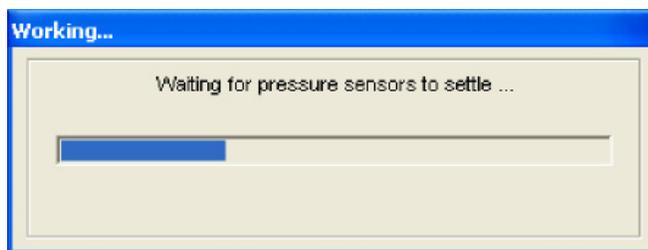

Figure 4-4. Auto-zero Status Window
- step 3 Once the system indicates that it is at ambient pressure, click **OK** and a status window will indicate that auto-zero is in progress (Figure 4-4).